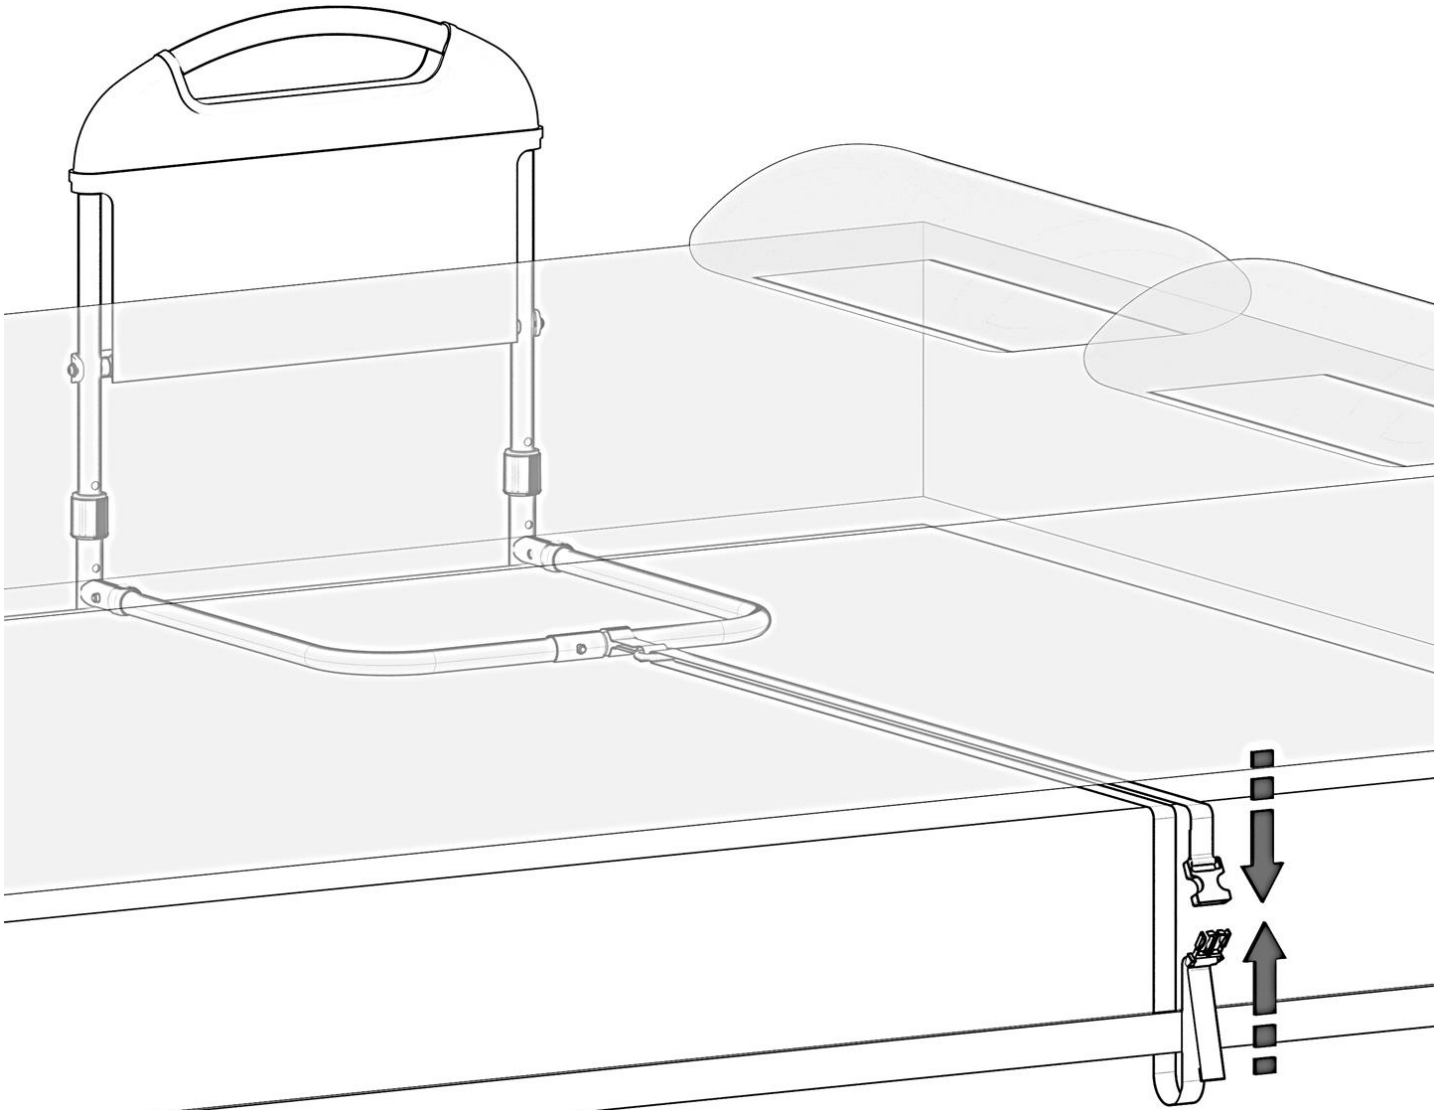

FIGURE 8
8. Loop SAFETY STRAP (G**) around bed frame, re-buckle and tighten SAFETY STRAP to secure Bedrail product against side of the mattress as shown in *FIGURE 8*.**